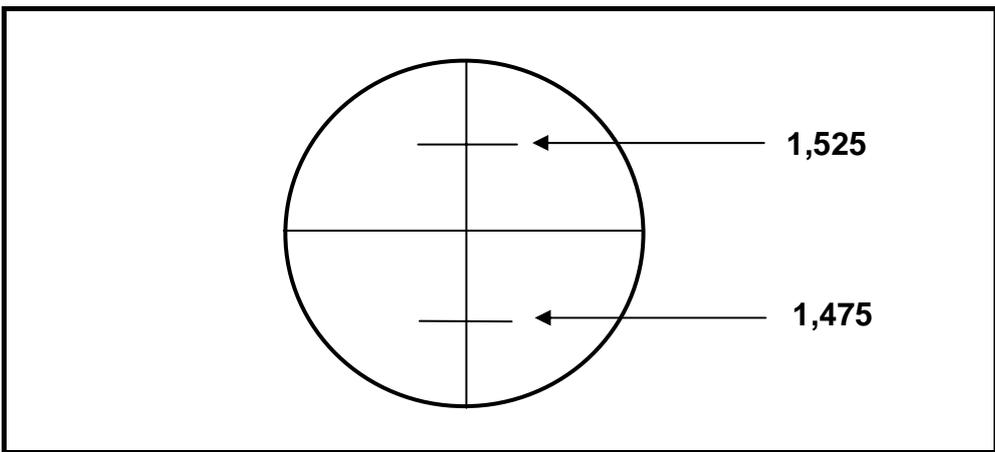

FIGURE 2.6
2.6 FIGURE 2.6 below shows a reading of the top stage and bottom stage lines as viewed through a dumpy level. Calculate the distance from the dumpy level to the measuring staff.